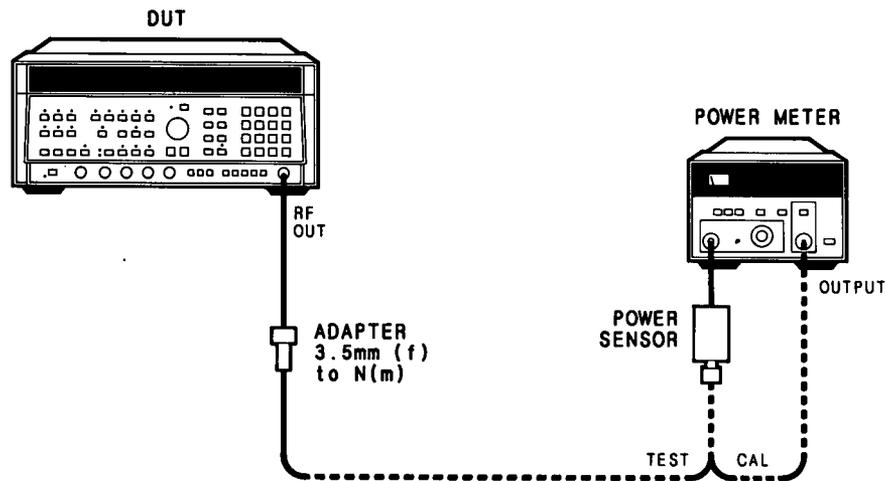

Figure 4-9. Power Sweep Test Setup
23. Connect equipment as shown in Figure 4-9 with the amplifier connected directly to the HP 3585A 50 Ohm input. Return the HP 3585A to 50 Ohm input impedance.
1. Connect equipment as shown in Figure 4-9. Connect the HP 8485A power sensor to the power meter. Allow a one hour warm up time. Set the power meter's calibration switch to include 1 GHz, then zero and calibrate the power meter before connecting the power sensor to the DUT.